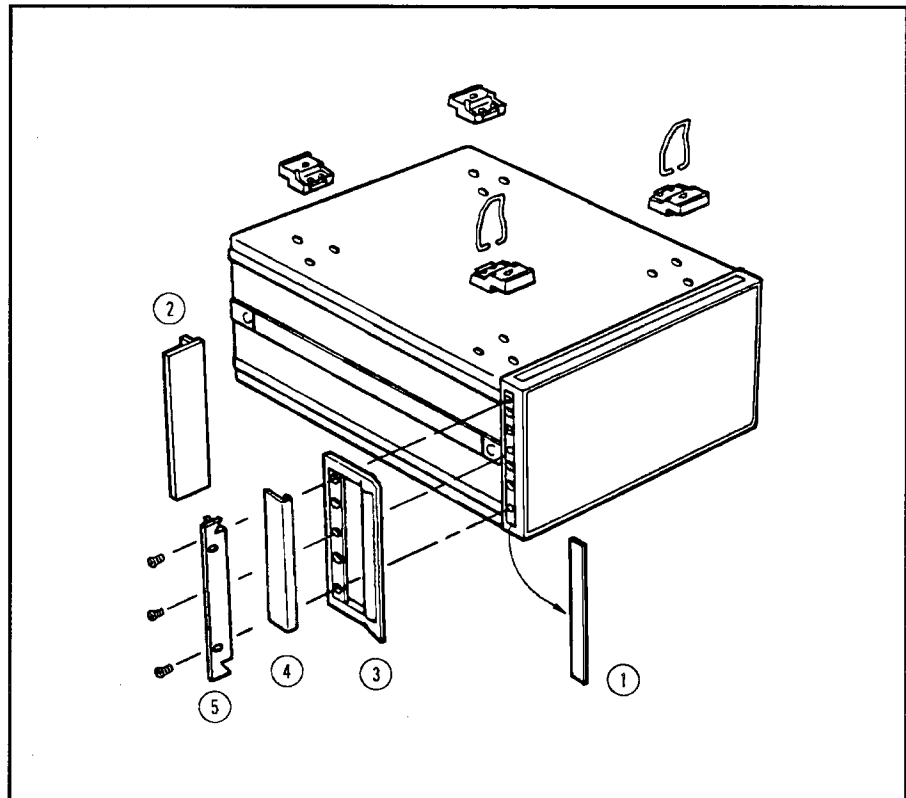

Figure 2-6. Rack Mount Kits Installation
The analyzer can be rack mounted and used as a component in a measurement system. Figure 2-6. shows how to rack mount the HP 4194A.
1. Remove the adhesive-backed trim strips ① from the left and right front sides of the HP 4194A. (Refer to Figure 2-6.)
2. Attach the front handles ② to the sides using the screws provided.
3. Attach the trim strips ③ to the handles.
2. Attach the rack mount flange ④ to the left and right front sides of the HP 4194A using the screws provided.
3. Remove all four feet ⑤ (lift bar on the inner side of the foot, and slide the foot toward the bar.)